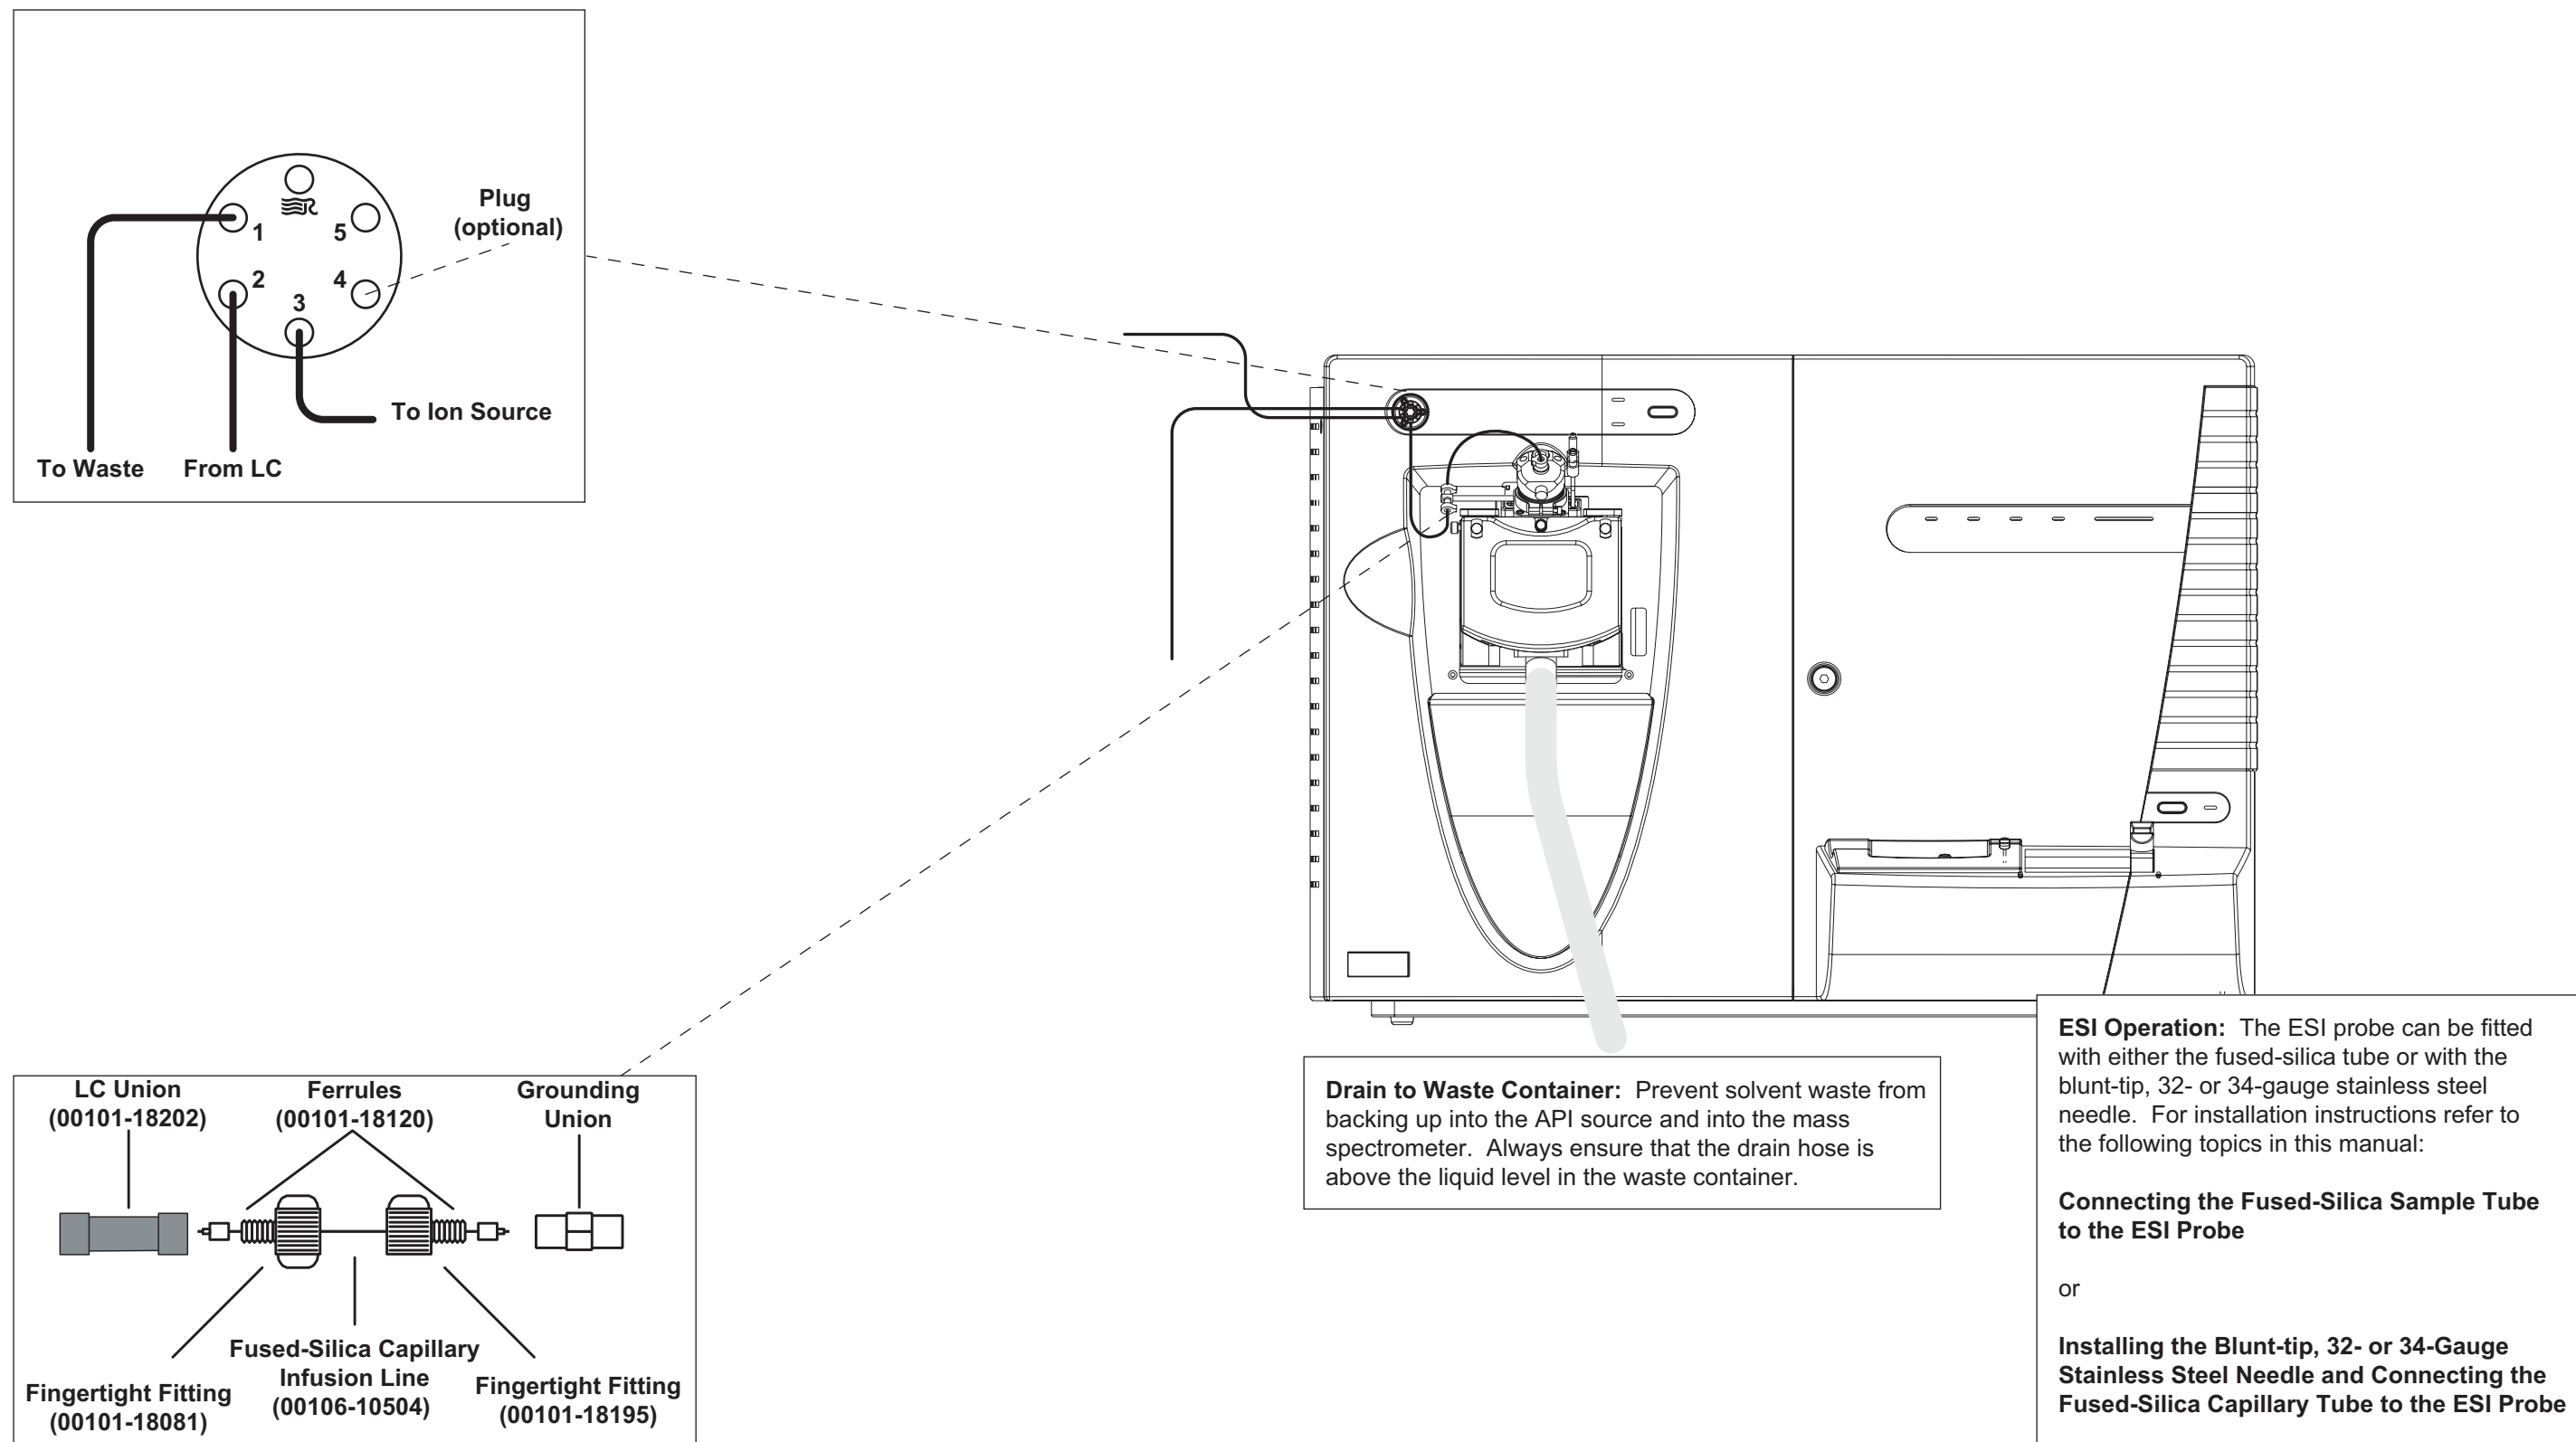

Figure 11-4. Plumbing diagram showing ESI/MS sample introduction from an LC autosampler with or without chromatographic separation
- Figure 11-4. Plumbing diagram showing ESI/MS sample introduction from an LC autosampler with or without chromatographic separation